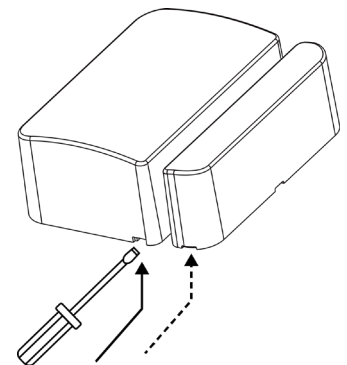

Figure 1
- **Use a flat-head screwdriver into the slot and push upward to open the protective cover. (Figure 1)**